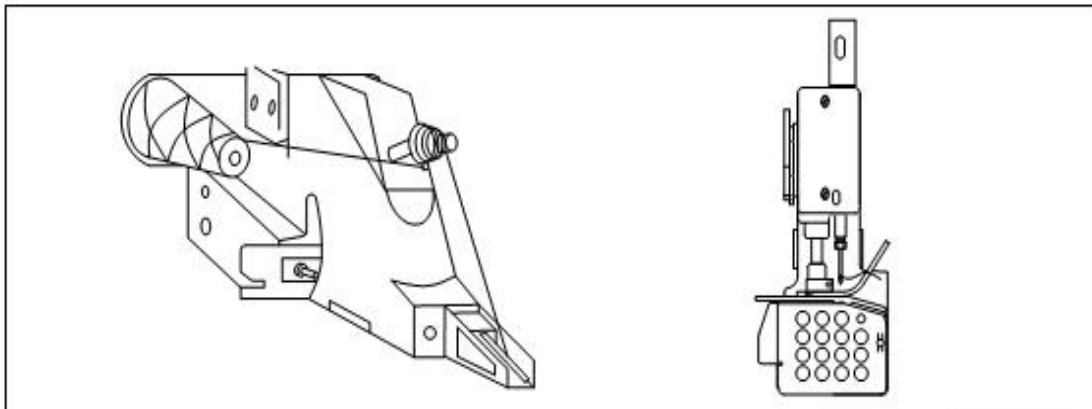

Figure 2
- Check the threading of the machine. See Threading Diagram **Fig 2**, and thread accordingly:
- The thread breaking may be caused by incorrect threading or wrong thread tension. Check the threading as per **Fig 2**.